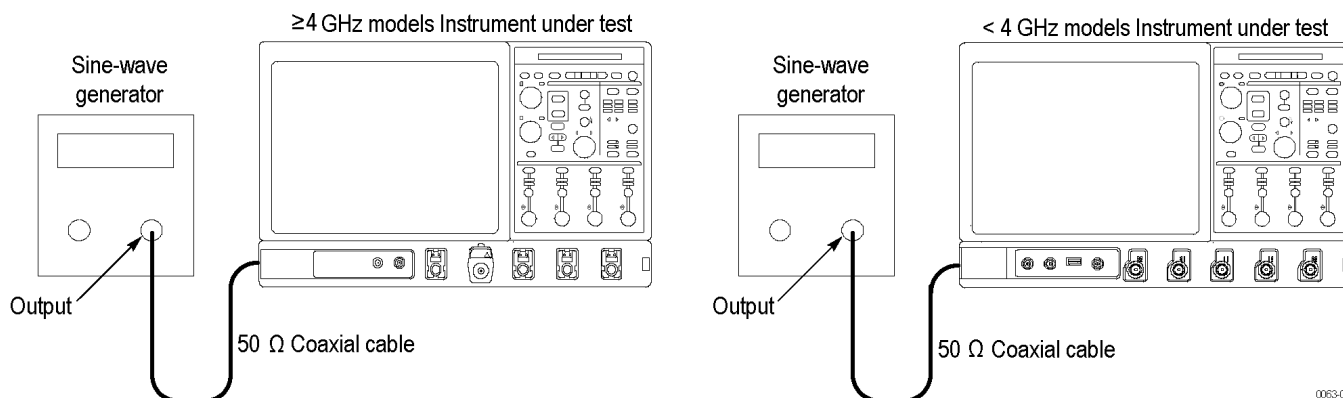

Figure 28: Timebase and delay time final test hookup
- Move the cable from the **Ch 1** input to the rear-panel **Ext Ref** input (See Figure 28: Timebase and delay time final test hookup on page 244.)